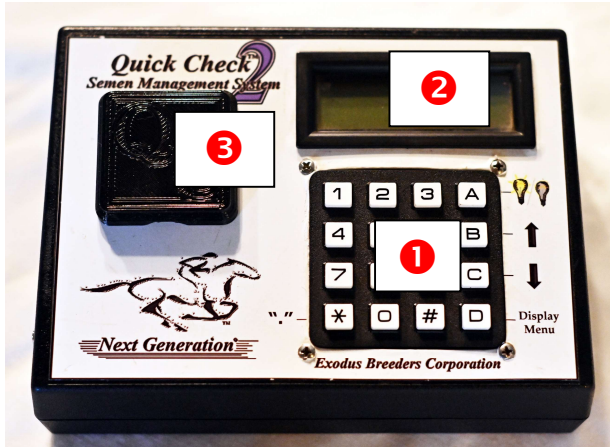

Figure 1: Front Panel Controls
As shown in Figure 1, the Quick Check 2 front panel includes a 16 key keypad ①, a backlit LCD display ②, and the cuvette receptacle ③.